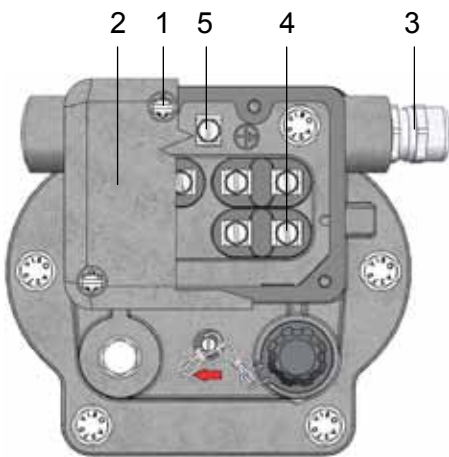

Figure 5 - Electrical connection
- Remove 4 screws M5 (Fig. 5/ No. 1)
- Remove the cap (Fig. 5/ No. 2)
- Insert the lead through the cable gland (Fig. 5/ No. 3)
- Connect the lead to the terminal studs (Fig. 5/ No. 4) (maximum torque 3 Nm)
Connect the protective conductor (green-yellow insulation) to the earth terminal (Fig. 5/ No. 5) (maximum torque 3 Nm).